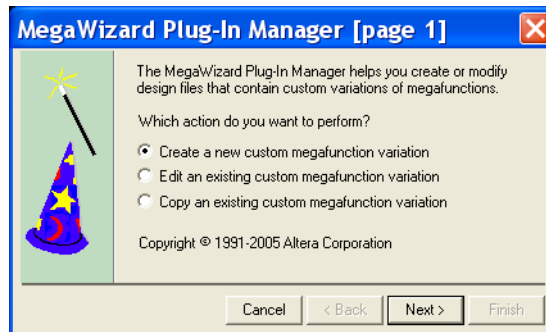

Figure 10. The MegaWizard.
1. Select Tools > MegaWizard Plug-In Manager. This leads to the window in Figure 10. Choose the action Create a new custom megafunction variation and click Next.